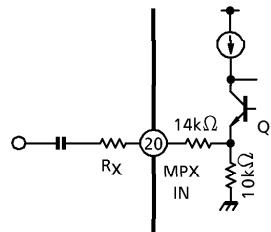

Fig.2 Internal circuit of MPX IN terminal
This IC can attenuate only FM stereo main signal level. Because MPX input for main signal (pin⑩) is independent of that for pilot signal (pin⑪), this terminal is shared with AM input). Internal circuit of MPX IN terminal (pin⑩) is shown in Fig.2. FM stereo main signal level can be attenuated by connecting an external resistor  $R_X$ . Because FM stereo main signal level is attenuated by internal resistor (14k $\Omega$  and 10k $\Omega$ ) and resistor  $R_X$ . And it is applied to an emitter of transistor Q.